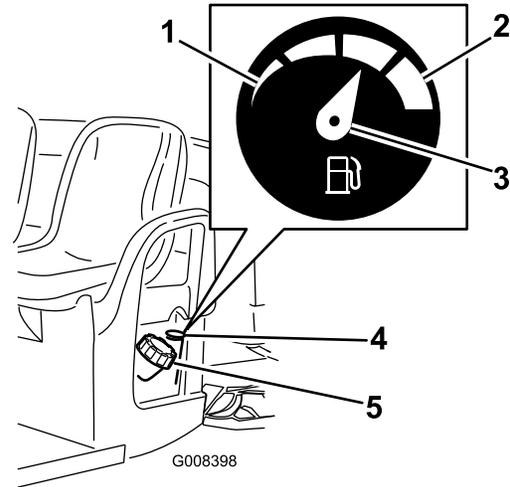

Figure 21
2. Clean the area around the fuel-tank cap (Figure 21).